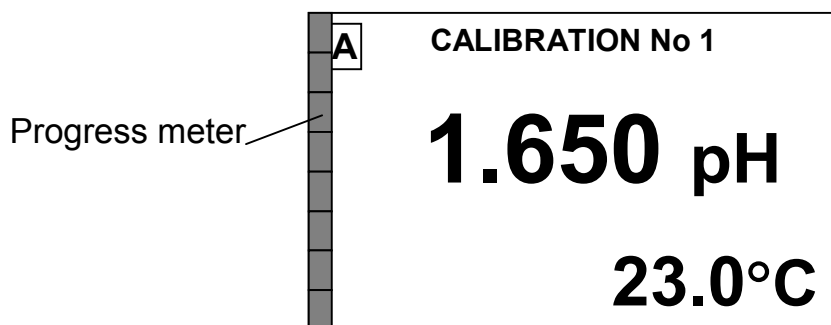

Fig. 2.4
- 5 If buffer solution pH value is identified automatically, it shall appear and the meter in the left part of the screen shall be pasted. Once readings become stable, the meter shall be pasted, the display shown in Fig. 2.4 shall come up.